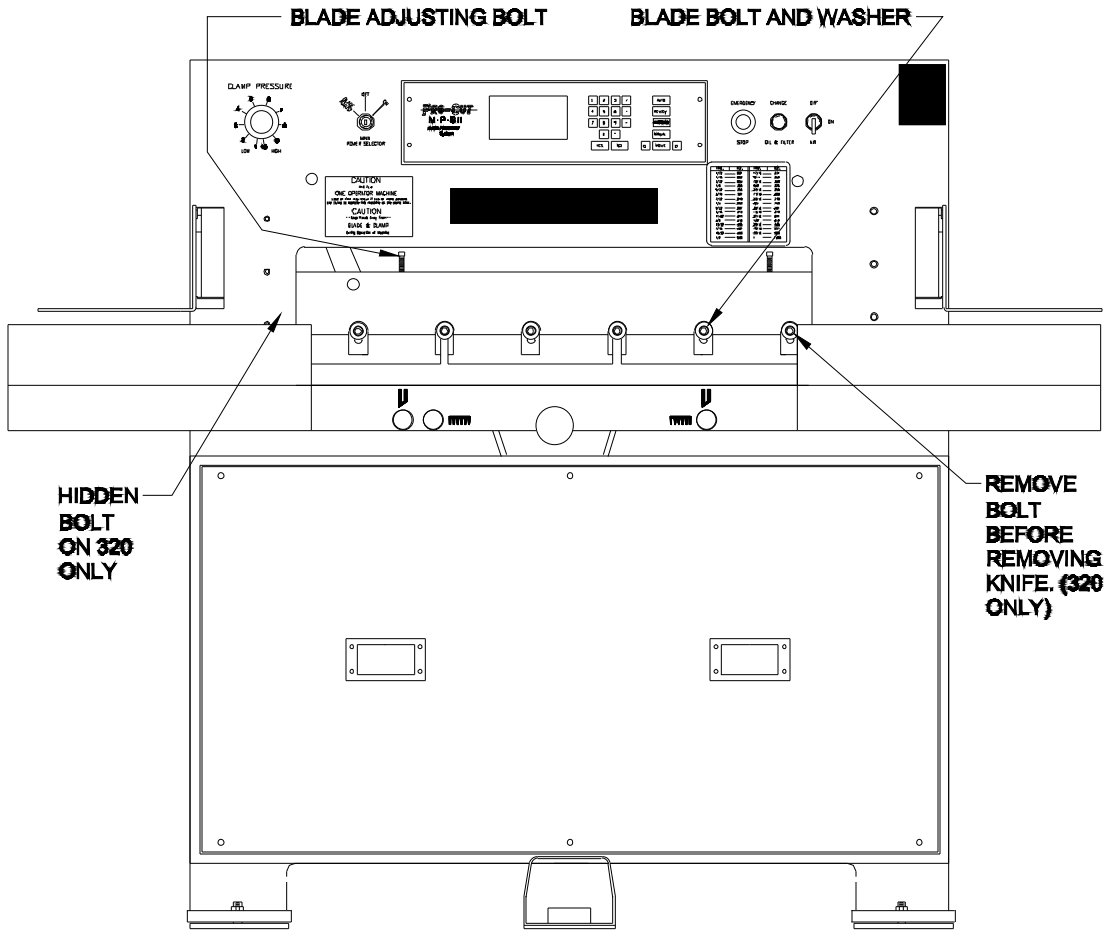

Fig 7
5. Unscrew the blade adjusting bolts six (6) full turns.
6. Remove the right side blade bolt and washer on 320 models only. Fig. 7.
16. Use the Cutting Stick Puller to remove the cutting stick. Turn the cutting stick to a new surface and insert the stick back into the cut stick channel. After the stick is completely down level into the channel, lay three (3) sheets of $8 \frac{1}{2}$ " x 11" paper one the left, one in the center, and one to the right, under the knife covering the stick.
19. Turn the knife adjustor screws clockwise, Fig. 7, with the $\frac{5}{16}$ open-end wrench evenly on both sides until the paper cuts. After the paper is cut, turn the adjustors down $\frac{1}{8}$ turn to assure cutting through a 4" stack of paper.